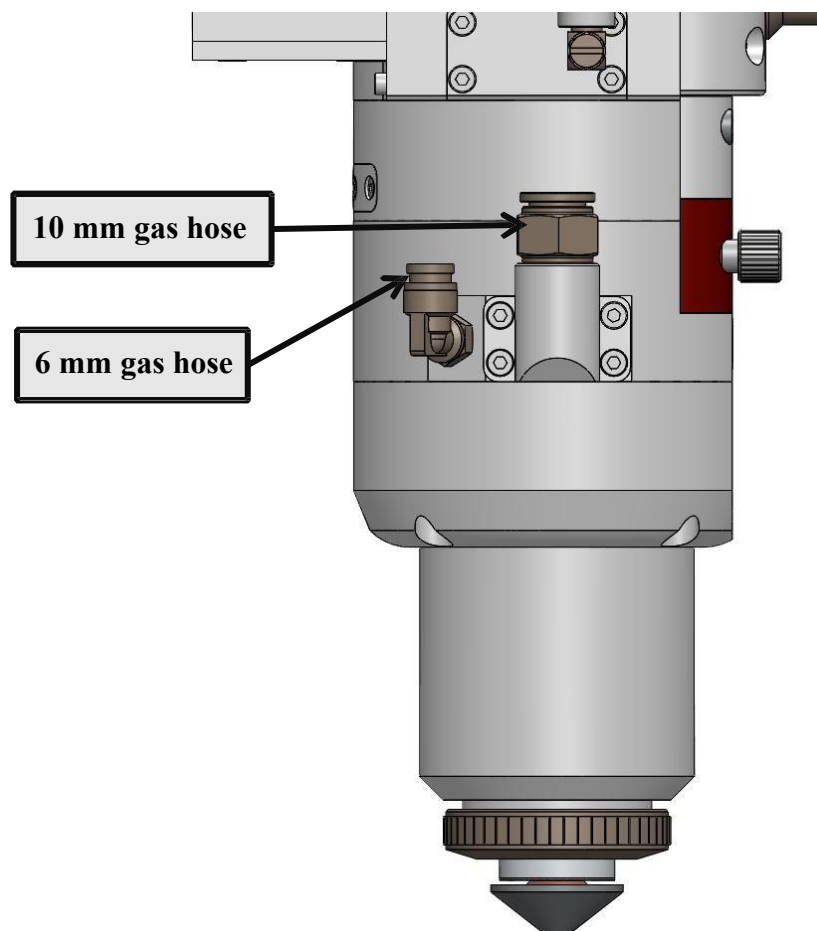

Figure 1.5
(1) The inlet is connected to 10 mm gas hose, as shown in the Figure 1.5 below, used to connect with the cutting had, with the input pressure  $<3.0$  Mpa.
(2) The inlet is connected to 6 mm gas hose, as shown in the Figure 1.5 below to access to cooling gas at the input pressure  $<0.6$  MPa.